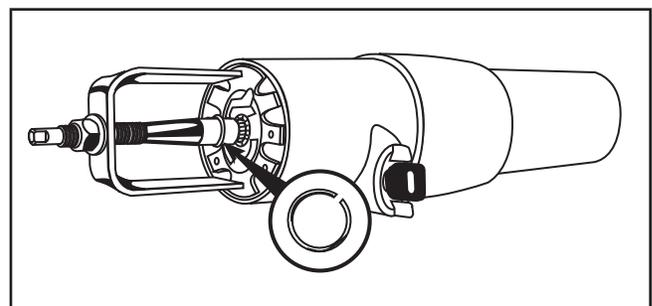

Fig. 1
3. Screw the internally threaded center post all the way down onto the steering shaft, then put the yoke over the center post as shown. Compress the lock plate by turning the nut clockwise. Both hands are free to pry the wire snap ring out of the groove and lift the lock plate off the shaft. See Fig. 1.